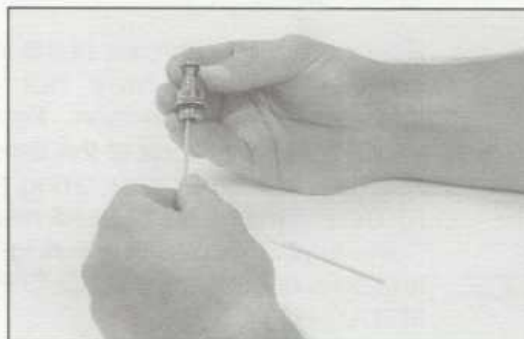

FIG 7-4
7. Before removing the inlet coupler (10), depress and hold the demand lever (17) to keep the sharp sealing edge of the adjustment orifice (11) from cutting the poppet seat (8) as the inlet coupler is removed in a counter-clockwise direction using a 3/4" open end wrench.
8. Using a genuine TUSA in-line adjustment tool, remove the adjustment orifice (11) by turning it inside the coupler in a counter-clockwise direction. When it has moved completely beyond the threads, it may be necessary to press it out of the inlet coupler with a cotton swab, being careful not to damage its sharp sealing edge. Refer to figure 7-4.